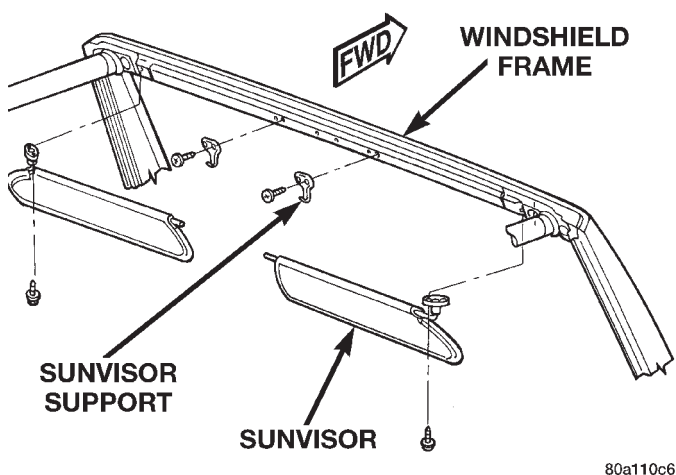

Fig. 71 Sunvisor
(1) Remove the screws that attach the sunvisor arm support brackets to the windshield frame (Fig. 71).
(2) Remove the sunvisor from the windshield frame